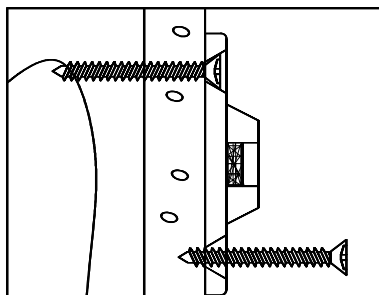
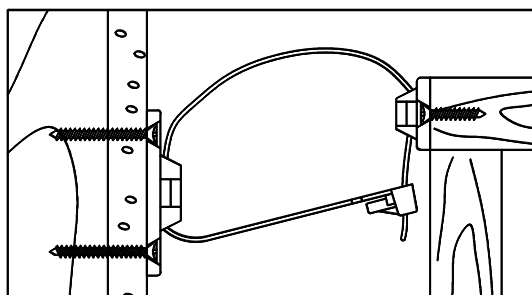

Figure 2
Figure 3
3) **MOUNTING THE WALL-SIDE BRACKET:** Position the wall-side bracket along the selected stud mark so that it will be adjacent the furniture-side bracket when the furniture item is moved to its final position. The wall-side bracket should be about ONE inch lower than the furniture-side bracket (See Figure 3). Use the TWO long screws to secure the wall-side bracket to the wall. Remember to position the wall-side bracket vertically so that both screws will engage the selected wall stud (See Figure 2).